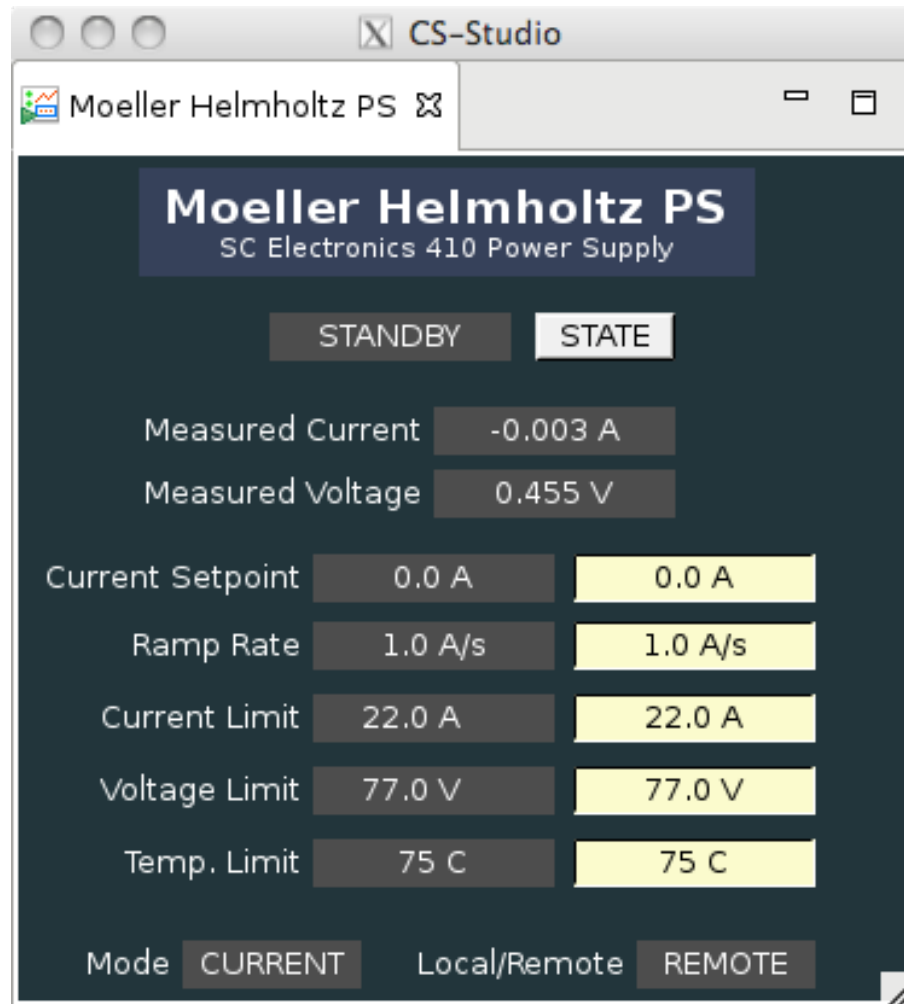

Figure 3: Control GUI for the Möller target Helmholtz coils power supply.
- The target is polarized to its saturation by a longitudinal (along the beam) magnetic field generated using a pair of Helmholtz coils. It is expected that the target will be saturated at ~ 1.8 A current in the coils. The recommended current for Möller measurement is 3.5 A. A GUI for power supply of Helmholtz coils, "Moeller Helmholtz PS" see Fig.3, has two controls, button "STATE" defines state of the power supply. Typically it will be in "STANDBY" state when is not in use. To energize coils first from the pull down menu in "STATE" chose "PS ON", then in "Current Setpoint", a white window, write the value, either 3.5 A or -3.5 A. Beam polarization measurements with both orientations of the Helmholtz field is recommended to check systematics, check with RC.